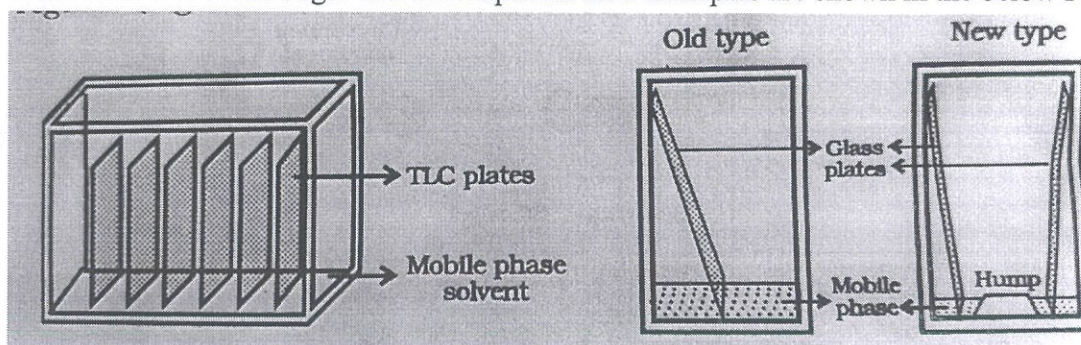

Fig 3: Development tank
The Silica extended structure and surface is shown in the Fig 2. The developed TLC plate is shown in the Fig 3.
4. **Development Tank:** For the purpose of development, a developing tank or chamber of different sizes to hold TLC plates of standard dimensions are used. These require more solvents for developing the chromatogram. When a new method is developed, it is better to develop in glass beakers or specimen jars, etc, to avoid more wastage of solvents. When developed method or standard method is used, it is better to use development tank. In the new type of development tanks have **hump** in the middle, which require less solvent. The development chamber or tank should be lined inside with filter paper moistened with the mobile phase so as to saturate the atmosphere. If this kind of saturation of the atmosphere is not done, "edge effect" occurs where the solvent front in the middle of the TLC plate moves faster than that of the edge. The development tank examples are shown in the below Fig 3.